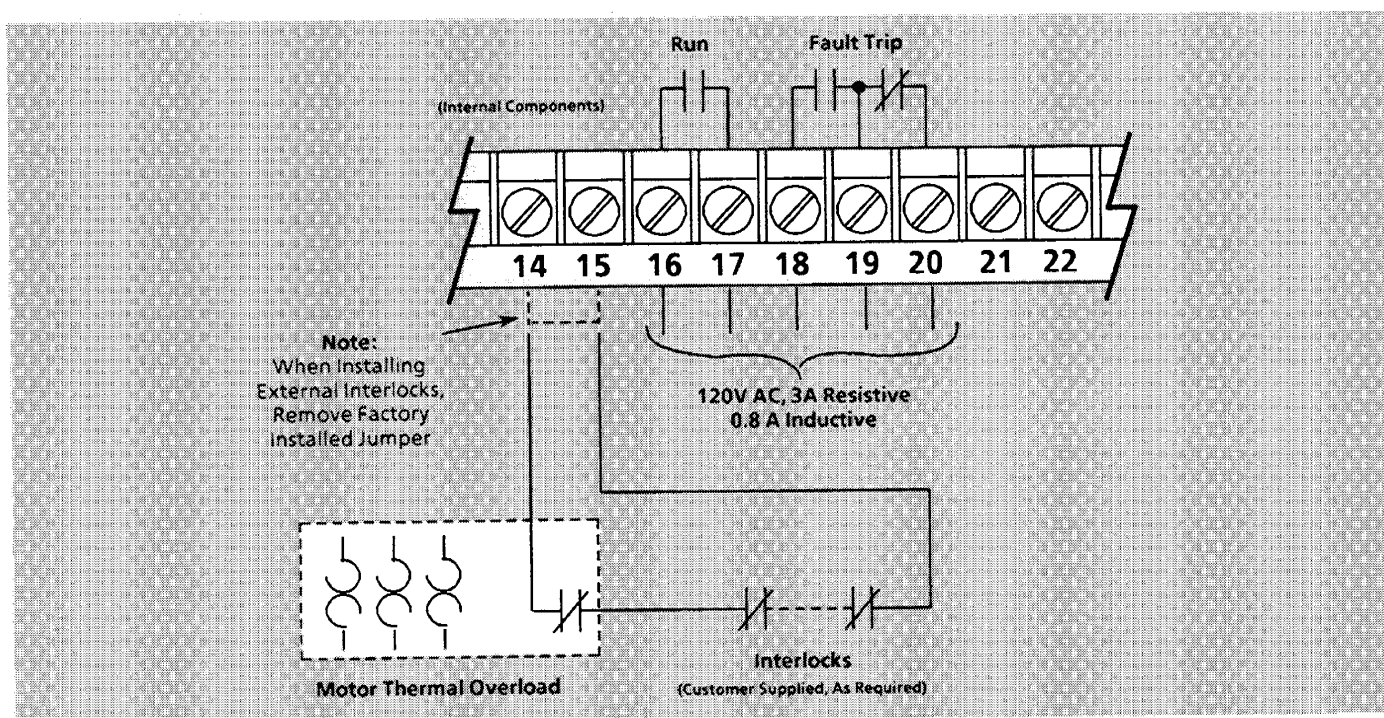

Figure 3-5. Fault Interlock Interconnection
**WARNING:** Any disconnecting means wired to the output of the controller **must** be capable of shutting down the Drive if opened during Drive operation. The Drive will continue to run into an open motor circuit causing equipment damage and/or personal injury if some type of hard wired, normally closed, STOP contact is not interlocked between terminals 14 & 15. Refer to Figure 3-5.
Terminals 14 through 22 are dedicated to Fault interlock interconnections. The following explanation indicates the function of these terminals and Figure 3-5 shows the connections made to each terminal.